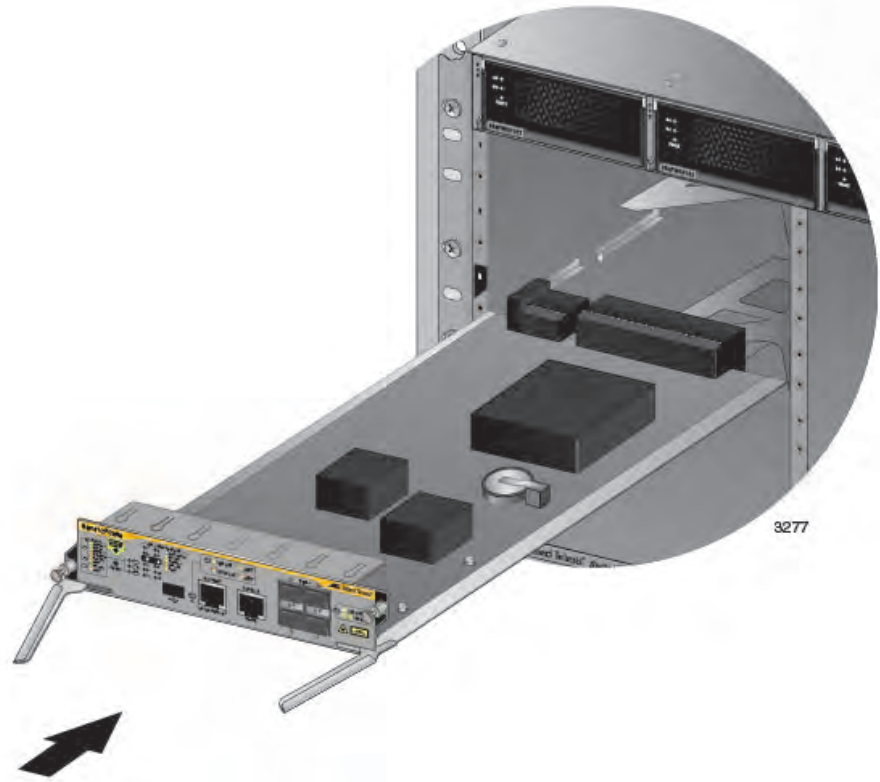

Figure 76. Aligning the AT-SBx81CFC960 Card in the Chassis Slot
6. Align the edges of the AT-SBx81CFC960 Controller Fabric Card with the internal chassis card guides in slot 5 or 6 of the AT-SBx8112 Chassis. Figure 76 on page 151 shows the AT-SBx81CFC960 Card aligned in slot 5.